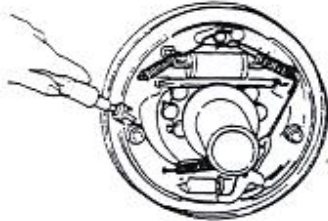

Figure 2-18
(3) Remove the fixing spring on the main brake shoe. See figure 2-18